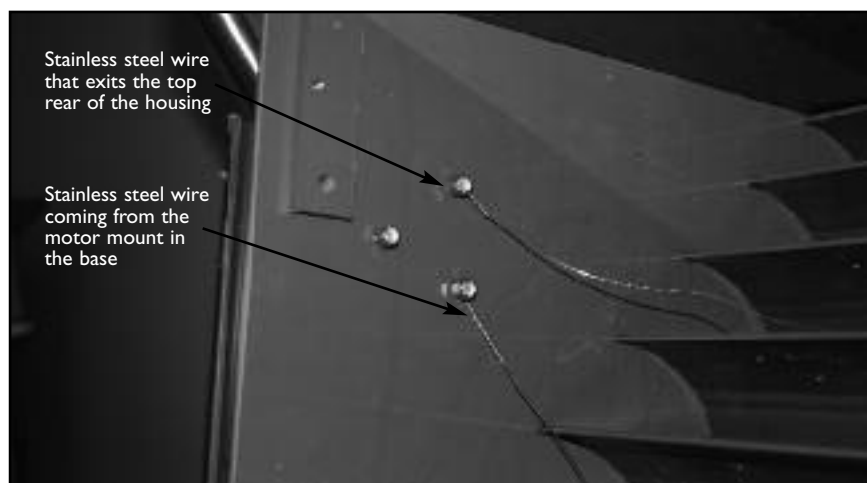

Fig. 9.7
- 9.9** Run the stainless steel wire attached to the motor mount up and through the 3rd turning vane (from the bottom) inside the upper housing. The wire should be on the left side of the housing as you are facing the unit (Fig 9.7).
- 9.10** Install the stainless steel grab bar to the upper housing using the provided machine screws and lock nuts. Make sure to place the stainless steel wire (from the motor mount in the base) around the bottom screw on the left side before tightening down on the nut. Place the second stainless steel wire (that exits the top rear of the upper housing) around another screw before tightening down on the nut (Fig 9.7).